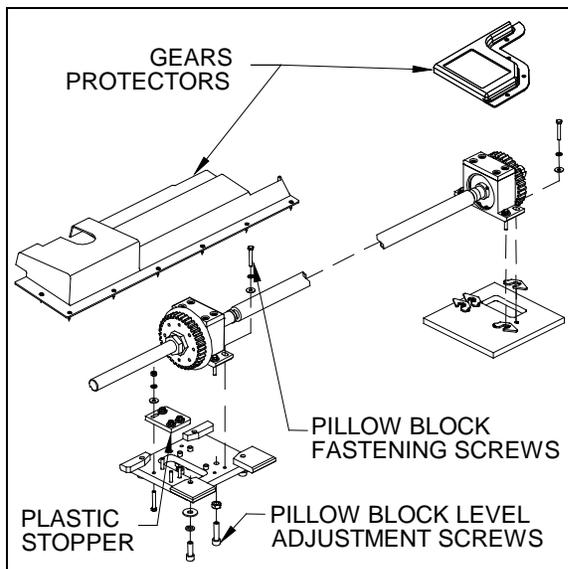
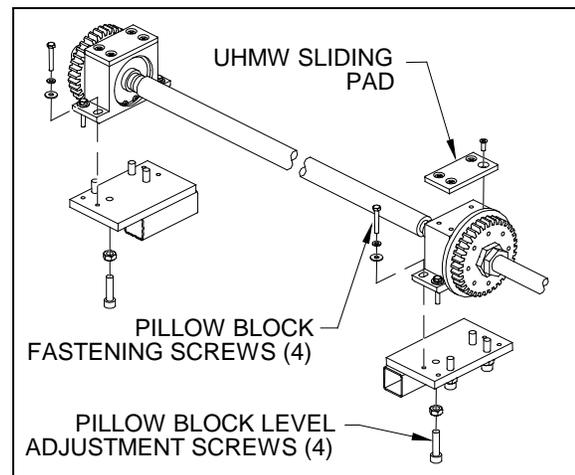

FIGURE 26 : FRONT SLIDE-OUT SLIDING PAD LEVELLING
FIGURE 27 : REAR SLIDE-OUT SLIDING PAD LEVELLING
There is a UHMW plastic stopper used to block any axial movement of the front slide-out lower shaft (figure 26). This stopper must be adjusted 1/32" away from the pinion.
plates (figure 26 and figure 27). To adjust the front slide-out UHMW sliding pad located on the driver side, add or remove shims under the pillow block (figure 26).
4. Make sure both pillow blocks are at the same distance from the structure and tighten the pillow block fastening screws and the adjustment screw jam nut (figure 26 and figure 27).